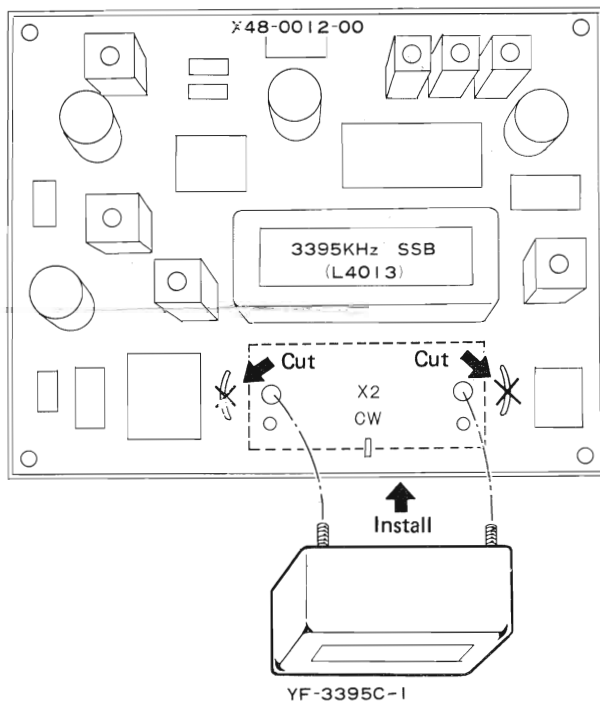

Fig. 1. Installing CW Filter
- (1) First remove the top and bottom covers from the TS-515, referring to SECTION 5. ALIGNMENT & MAINTENANCE. And then install the CW filter next to the SSB filter on the IF unit (X48-0012-00 or X48-0012-01), located at the rear part of the transceiver and fix it with nuts and solder its pins.
- (2) Soldering should be carried out with as small as amount of solder and as quick as possible.
- (3) Cut away the jamper wires from the both sides of the CW filter using the cutting nipper (Fig 1) and make a clearance between the wires.